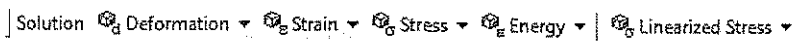
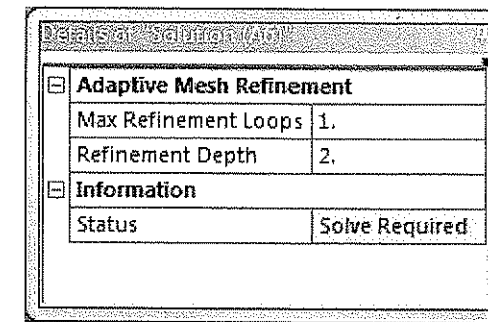

Figure 9-4 The Solution contextual toolbar
Figure 9-17 The Details of "Solution" window
The main purpose of an analysis is to evaluate the results. After the boundary condition is set and loads are applied, you need to specify the desired outcomes of the analysis. In ANSYS Workbench, you can analyze various parameters such as deformation, stresses, strains, and so on. To do so, you need to specify the results required and then evaluate them. You can use the tools available in the **Solution** contextual toolbar to specify results, refer to Figure 9-4. Alternatively, right-click on the **Solution** node in the Tree Outline and then use the desired option from the shortcut menu displayed.
1. Select the **Solution** node in the Tree Outline; the **Solution** contextual toolbar is displayed, refer to Figure 9-4. Also, the **Details of "Solution"** window is displayed, refer to Figure 9-17.